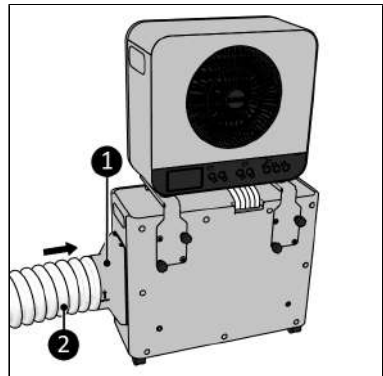

Figure 39.
9. Connect the adapter (Figure 39, pos. 1) to the side of the outdoor unit (Figure 39, pos. 1).
10. Stretch the heat exhaust hose (Figure 39, pos. 2) slightly at one end and screw it (anticlockwise) onto the adapter.
3. The adapter (Figure 39, pos. 1) and the heat exhaust hose (Figure 39, pos. 2) need to be connected to the side of the outdoor unit.